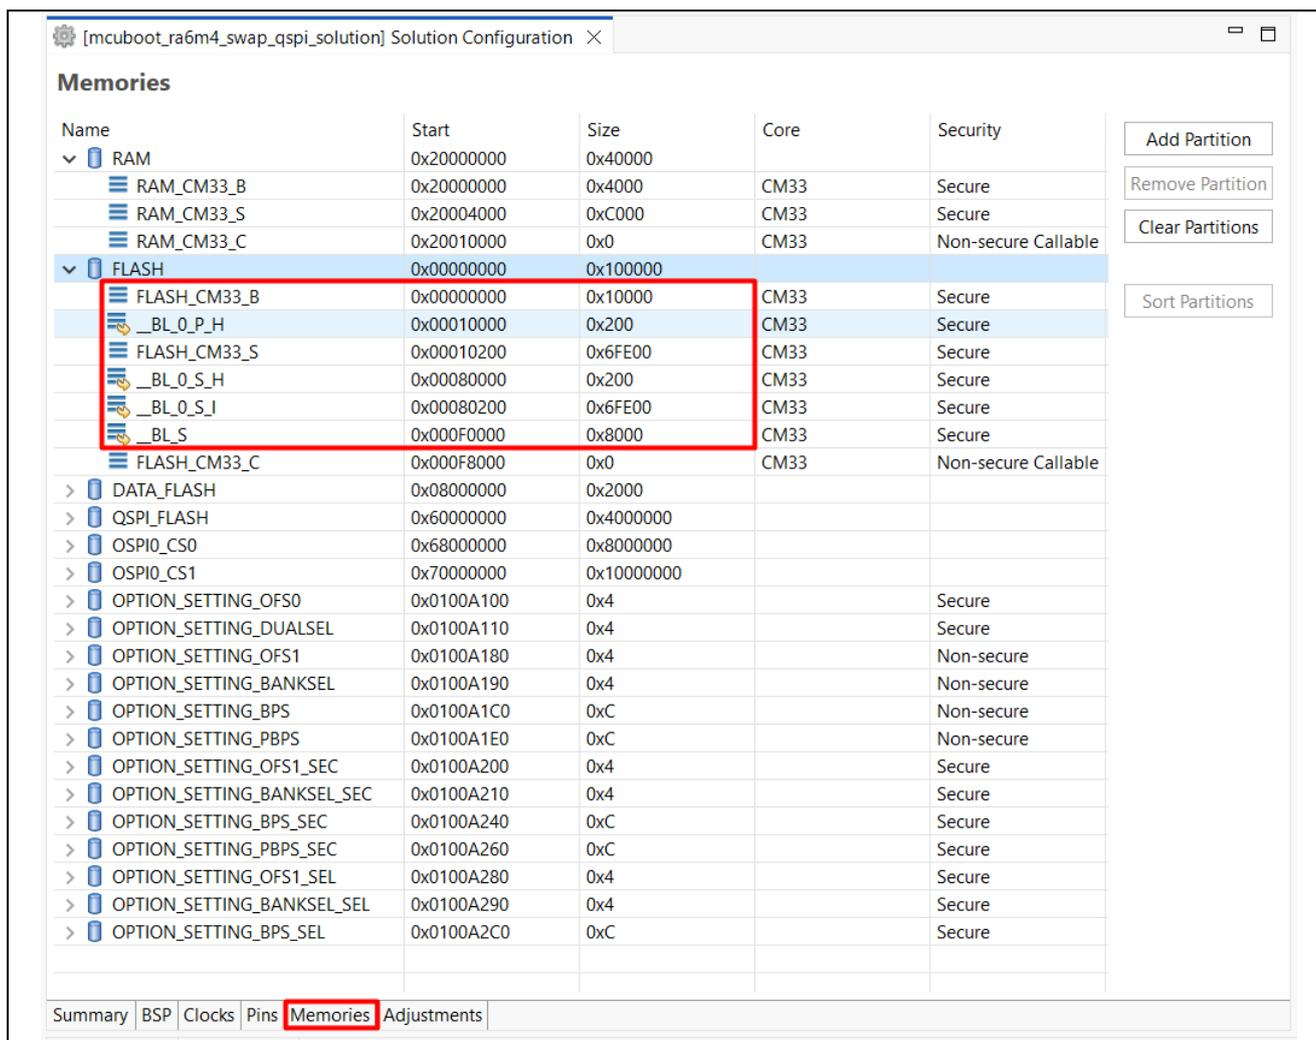

Figure 9. Memory Partition for Primary and Secondary Image Storage with Internal Code Flash
2. Users need to sequentially copy the labels from Table 3 into the Memory Partition of the **Solution Project**, and then press **Ctrl + S** to save the settings. The completed MCUboot Flash Map is shown in Figure 9.